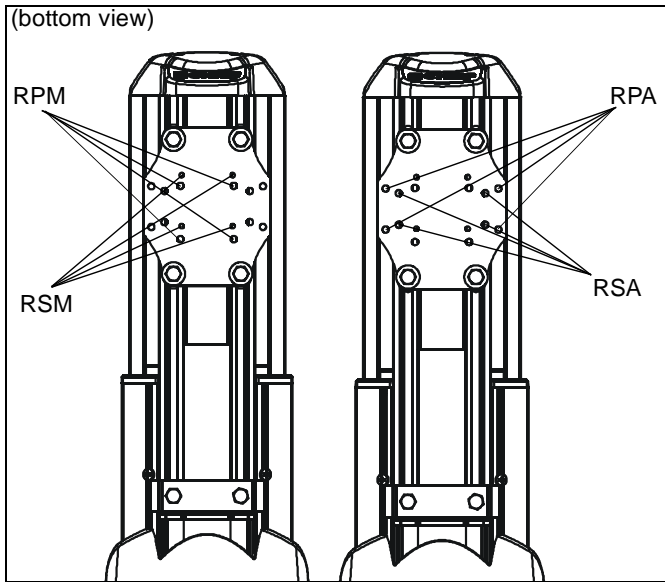

Figure 15
1. Line up mounting holes on RPM mount with corresponding holes on projector mounting plate. (See Figure 15)
1. Line up mounting holes on RSM mount with corresponding holes on projector mounting plate. (See Figure 15)
1. Line up mounting holes on RPA mount with corresponding holes on projector mounting plate. (See Figure 15)
1. Line up mounting holes on RSA mount with corresponding holes on projector mounting plate. (See Figure 15)